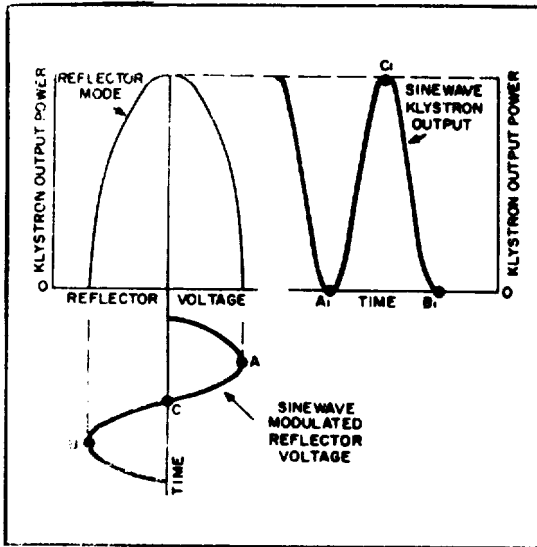
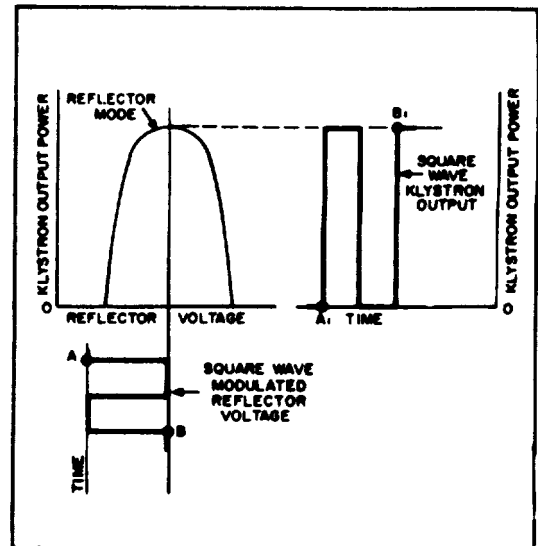

Figure 6-2. Reflector Mode, Sine-wave Modulation
Figure 6-3. Reflector Mode, Pulse and Square-wave Modulation
a. Figure 6-2 illustrates sine wave modulation of the klystron reflector mode. At instant A, reflector voltage is at a maximum within the reflector mode and klystron power output A_1 is zero. At instant B, reflector voltage is at a minimum within the reflector mode and klystron power output B_1 is zero. At instant C, reflector voltage is in the center of the reflector mode and klystron power output is at a maximum. For every sine wave cycle which modulates the reflector mode, two cycles appear at the klystron output. For this reason, the sine wave generator is designed to oscillate at one-half the MOD FREQ SEL front panel frequency designation, when the MODULATION SELECTOR is in the AMPLITUDE position.
b. Figure 6-3 illustrates pulse and square wave modulation of the klystron reflector mode. At instant A, reflector voltage is outside of the reflector mode and klystron power output A_1 is zero. At instant B, reflector voltage is in the center of the mode and klystron power is at the maximum. Reflector modulation voltage is determined by the modulator and keyer.
6-19. The keyer section serves to set the klystron tuner grid and reflector voltages at the proper voltage level for the trainer operating frequency and modes of operation. These are determined by the trainer operating control settings. For noise and sine wave modulation, the keyer biases the klystron output as shown in figure 6-2. For pulse and square wave modulation, the keyer biases the klystron output as shown in figure 6-3. During swept frequency operation, sweep inverter V301 receives a portion of the sweeper signal from the output of cathode follower V211 (see paragraph 6-17), through switch S303. This signal is then fed through the appropriate networks, depending on the position of SWEEP SECTOR switch S302, to cathode follower V304A. The swept frequency signal is then fed to summing amplifier tube V305, where the d-c level and the sweep are added. The d-c level is determined by the position of the RF FREQ (RJ15B), LO LIM SET (R353), and HI LIM SET (R335) control network. The summed signal is then fed
to cathode follower V303, which feeds it to the klystron reflector through a resistor capacitor network consisting of R344, R342, C311 and C309, for AMPLITUDE and NOISE modulation. In the case of SQUARE or PULSE modulation, keyer V302 is activated. The keyer serves to shift the pulse or square-wave modulation reflector voltage so that its base line (time) appears just before the beginning of the reflector voltage (see figure 6-2). The reflector protective diode, V304B, prevents the reflector voltage from going positive (a condition which would ruin the klystron). Should the reflector voltage become positive, V304B conducts and acts as a short circuit, removing the positive voltage from the reflector. Voltage reference tube V306 is connected between the screen grid and cathode of the summing amplifier. Since summing amplifier V305 is essentially a d-c amplifier, small variations in screen grid voltage will cause undesirable large plate current variations. Tube V306 prevents this action by keeping the screen grid voltage on summing amplifier V305 constant. During fixed frequency operation, no swept frequency signal is available, and only steady d-c levels are applied to the tuner grid and the reflector. The d-c levels are determined by the setting of the RF FREQ control. The fixed frequency reflector d-c level and the sine wave, square wave or pulse modulation signals are fed to the reflector through the same circuitry as described above, for keyer swept-frequency operation.